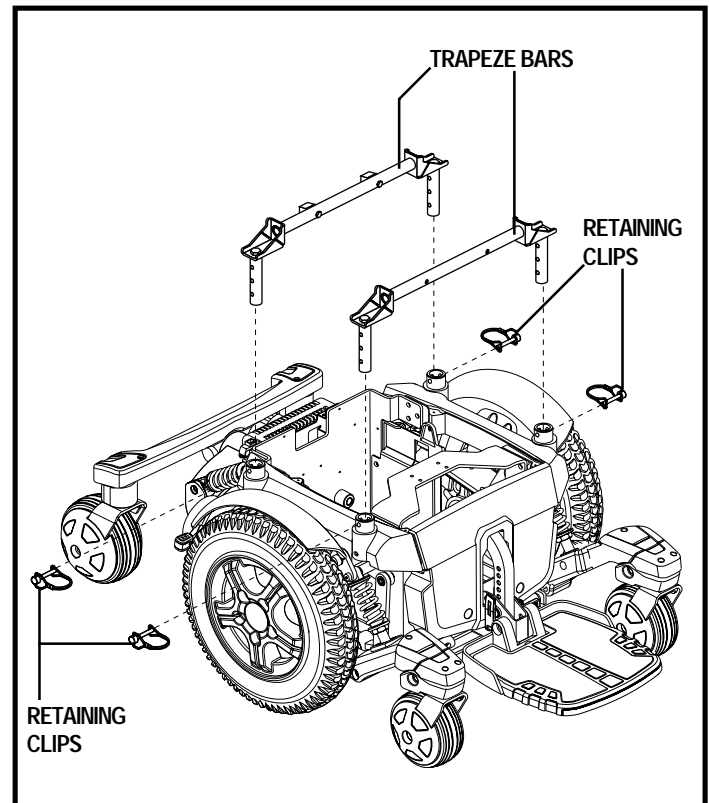

Figure 16. Seat Height/Angle Adjustment
8. Remove the retaining clips that attach the trapeze bars to the seat posts. See figure 16.